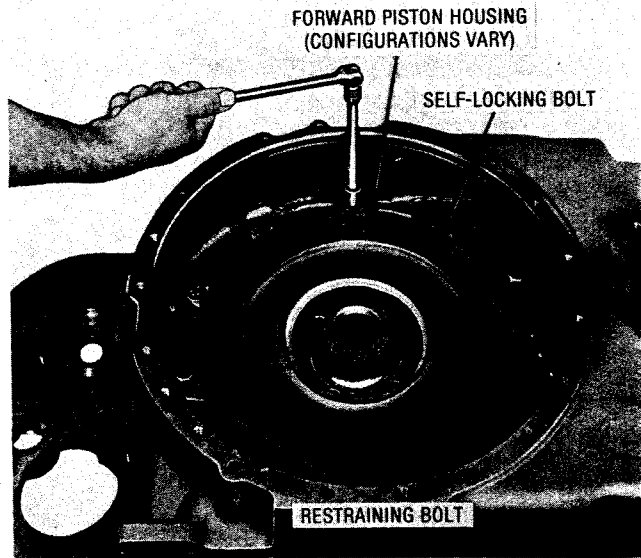

Fig. 7-21. Installing forward clutch piston housing bolts
(9) Install the forward clutch piston housing and piston assembly. For earlier models, install flat washers and eight of ten 3/8-16 x 1-1/2-inch self-locking bolts (fig. 7-21). For later models, install eight of ten 3/8-16 x 1-3/4-inch self-locking bolts. Use two of the longer valve body mounting bolts